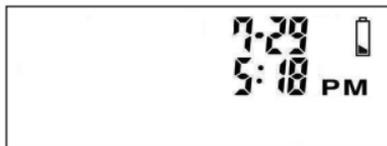

Figure 39
1. When the “” symbol appears alone on the display, the meter is functional and the result remains accurate, but you should change the battery as soon as possible. *See Figure 39.*